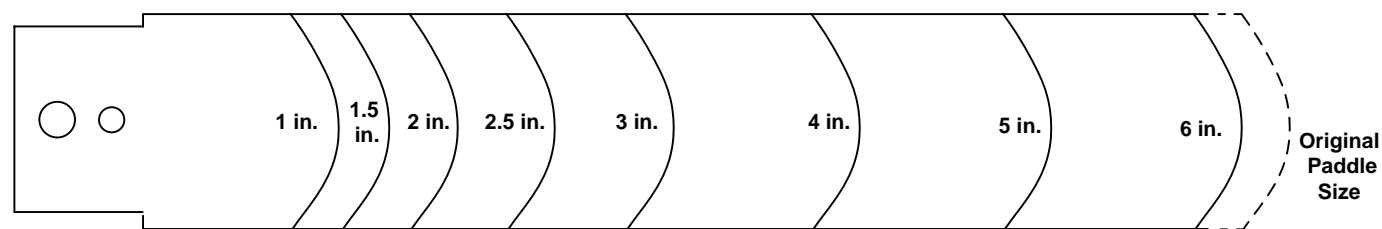

Figure 5: Trimming Template for the Extra Paddle
- If longer paddle is required, the extra paddle may be trimmed to fit 6" or smaller diameter pipe. Use Figure 5 to trim the paddle at the arc corresponding with the pipe size.